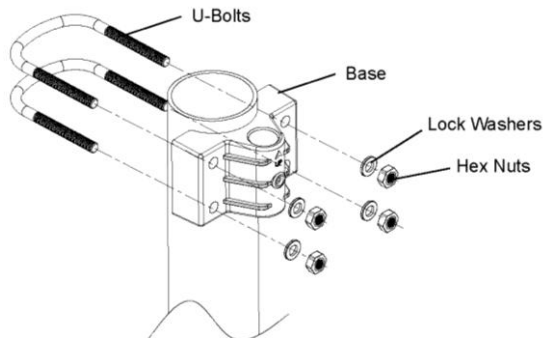

Figure 6: Sensor package mounting diagram 5-1
1. Install the base on a pole (1.25inch~2inch) as Figure 6.